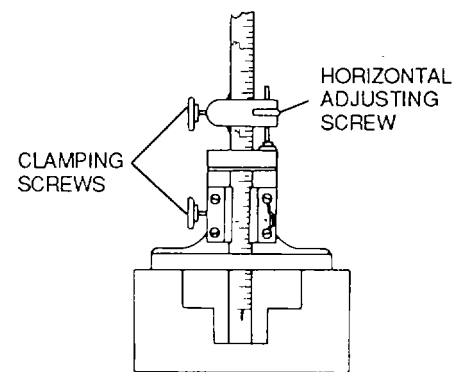

Figure 3-49. Vernier Depth Gauge
(3) *Vernier depth gauge.* The vernier depth gauge, shown in figure 3-49, consists of a graduated scale, either 6 or 12 inches long, and a sliding head similar to the one on the vernier caliper. The sliding